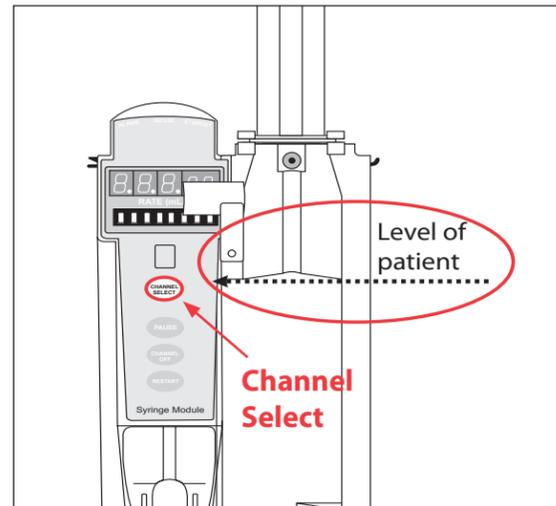

fig. 1
- Ensure device is at or below level of patient (fig. 1)